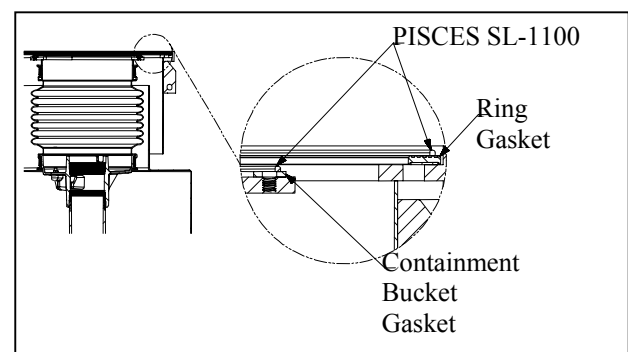

Figure 4
10. Apply an even bead of PISCES SL-1100 to the topside of the containment bucket gasket(s). (See Figure 4.)
11. Apply an even bead of PISCES SL-1100 to the topside of the ring gasket. (See Figure 4.)